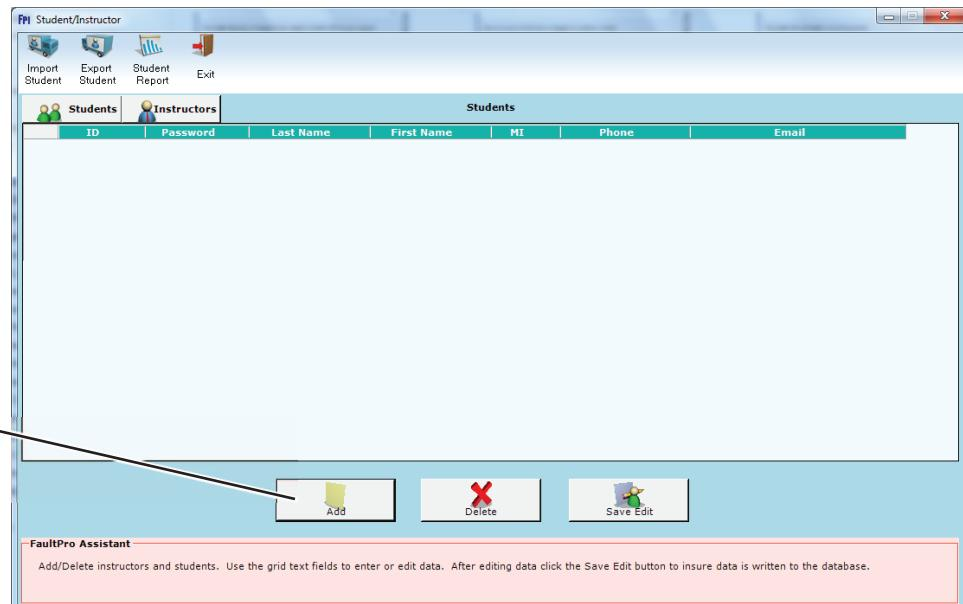

Figure 44. Instructor's Tab Displayed
- B. Click the **Instructors** tab to display a listing of instructors. The Instructors tab should appear as shown in figure 44.
- C. Click the **Add** button, shown in figure 44, to begin the process of adding an instructor to the database.